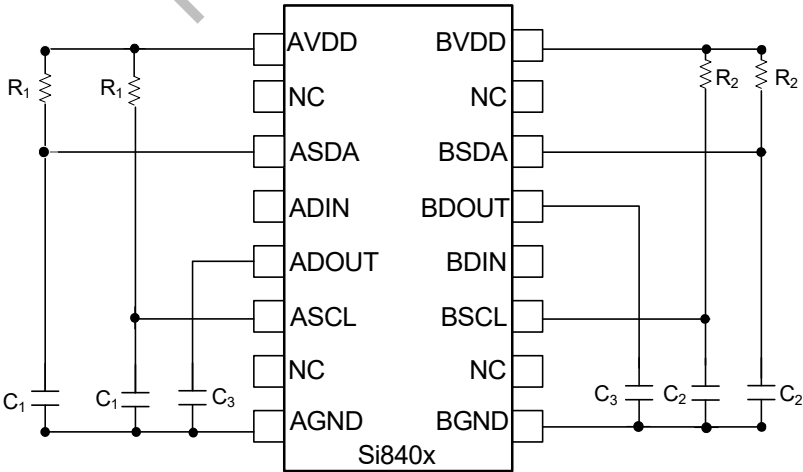

Figure 2. Simplified Timing Test Diagram
3.0 V < VDD < 5.5 V. TA = -40 to +125 °C. Typical specs at 25 °C (See Figures 2 and 16 for test diagrams.)
Figure 2 depicts the timing test diagram.